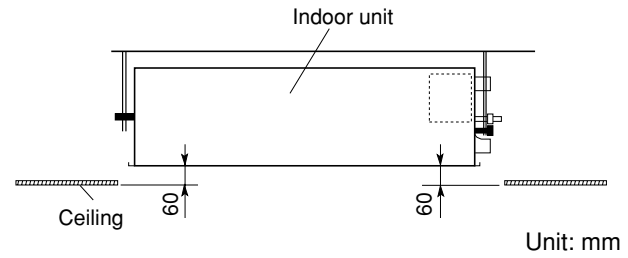

Fig. 9-6
- (1) Adjust the distance between the unit and the surface of the ceiling (60 mm) using the 2 hexagonal nuts as shown in Fig. 9-6 while following the installation gauge.